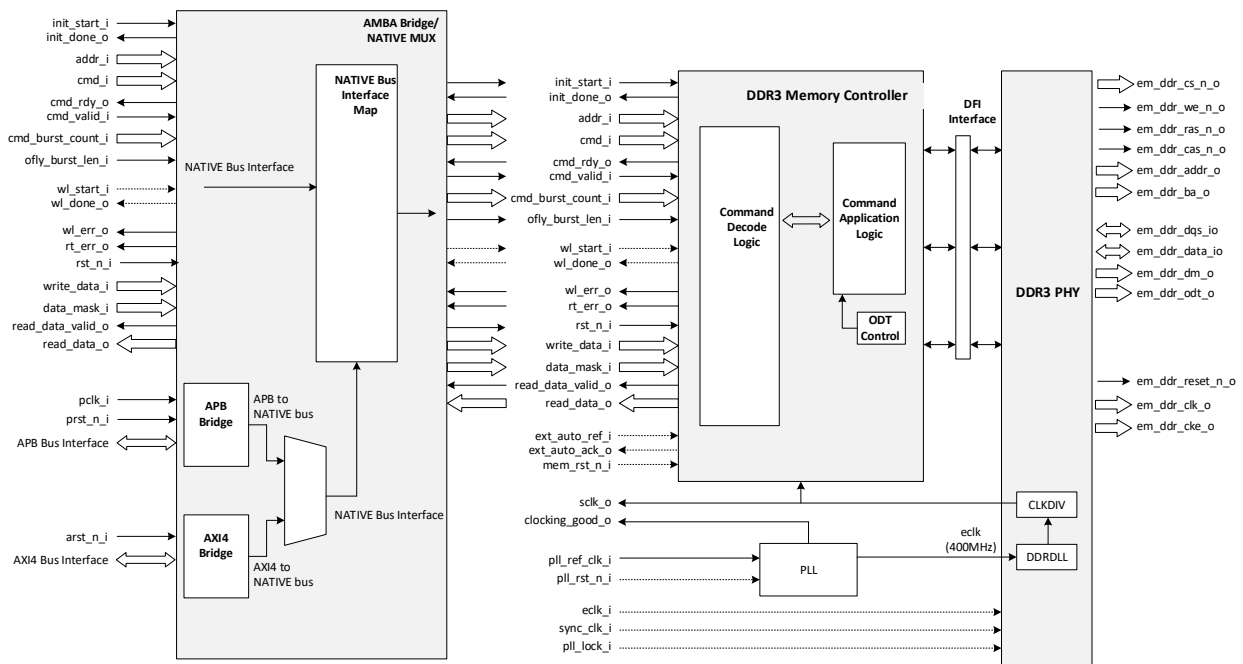

Figure 2.1. Memory Controller IP Core Functional Diagram
The DDR3 memory controller consists of four submodules: AXI4/APB Bridge Interface Module, Soft Memory Controller (MC) module, Soft Physical Interface (PHY) module and Soft Training Engine. The following subsections briefly describe the operation of each submodule. Figure 2.1 provides a high-level block diagram illustrating the main functional blocks used to implement the DDR3 SDRAM Controller IP Core functions.